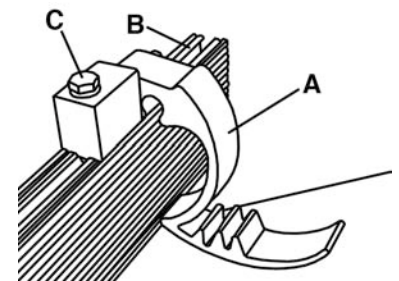

FIGURE 16
This miter gauge comes with a flip work stop (A) Fig.16 which get installed in the T-slot on top of the miter gauge fence (B). To position the flip work stop, loosen hex. bolt (C), move the flip work stop in the desired position and retighten hex. bolt. When the flip work stop is not required, simply flip it upwards or it can be removed completely.